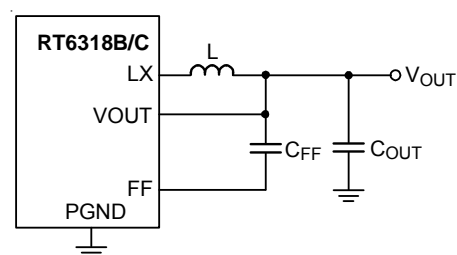
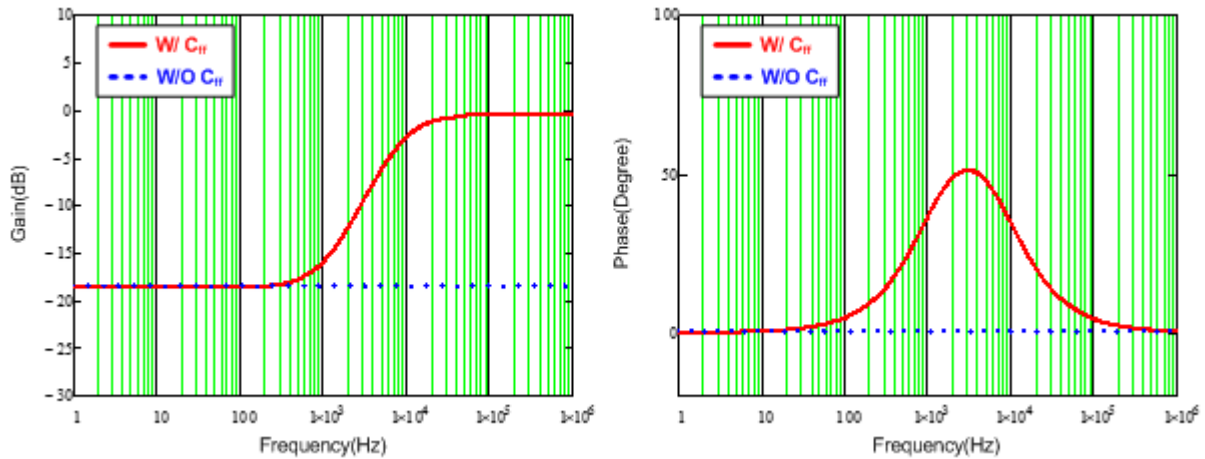

Figure 4. Feedback Loop with Feedforward Capacitor
Figure 5. Bode Plot with Different Feedback Loop Conditions
For saving time to design compensator and reducing the layout area through external components, the components of compensator are integrated in IC. However, this integrated compensator might not suit to every load transient spec. Hence, for the RT6318B/C to be more adaptable, the feedforward capacitor C_{FF} is used in the feedback loop to improve transient response, as shown in Figure 4. Figure 5 shows the comparison result of bode plot with different feedback loop conditions. Referring to Figure 5, through connecting a C_{FF} in feedback network, the gain and phase are raised in mid-frequency that not only can extend the bandwidth, but boost the phase margin as well. Moreover, there is also a high frequency pole to eliminate high frequency noise. Consequently, those features of feedforward feedback network allow the RT6318B/C have faster response to handle different load transient.
Observing Figure 5, the maximum phase boost occurs between zero and pole frequencies that is defined as maximum phase boost frequency, as expressed in equation (4). Hence, in order to achieve the maximum phase boost by adding C_{FF} in the RT6318B/C, the system's original bandwidth has to be located at maximum phase boost frequency.